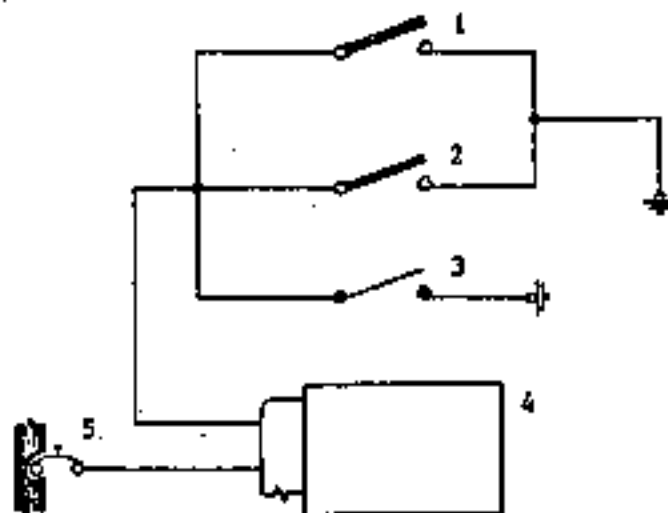

Fig. 9-13 Defogging selector valve
5.2.1 DEFOGGING SELECTOR VALVE (See Fig. 9-13)